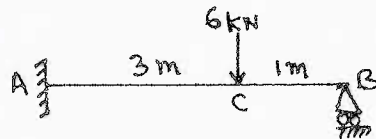

Fig.Q6(a)
- 6 a. Analyze the propped cantilever beam subjected to the loadings as shown in the Fig.Q6(a), by consistent deformation method. Support B sinks by 25 mm. Take  $E = 10 \text{ GPa}$  and  $I = 20 \times 10^6 \text{ mm}^4$ . Draw BMD and SFD.